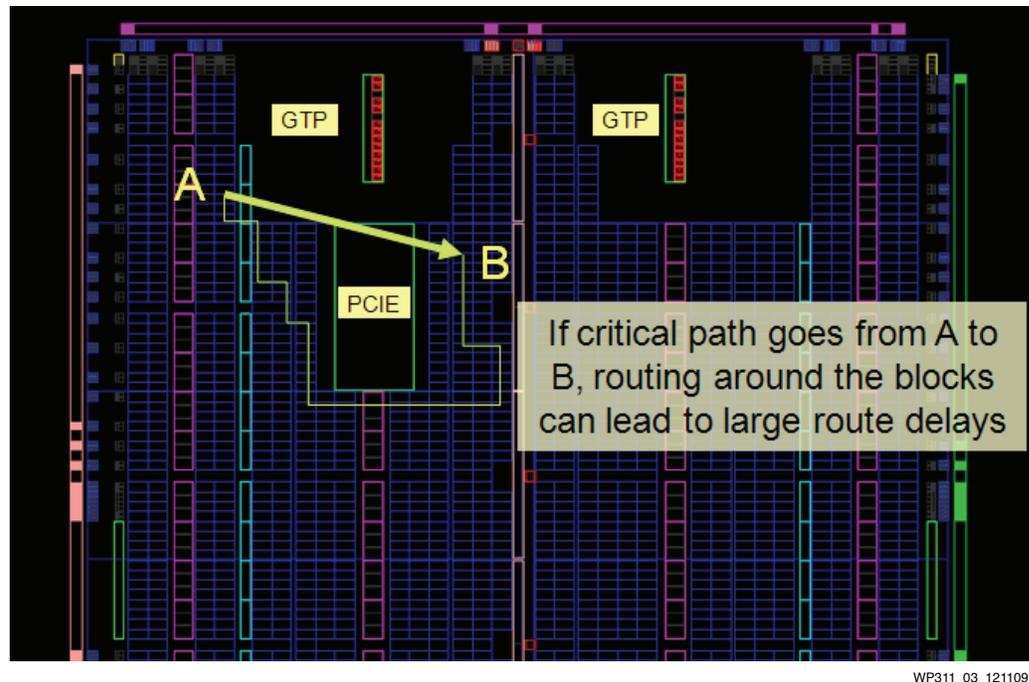

Figure 3: Floorplan View (PlanAhead Software)
- Check the path graphically in the design tools (using the PlanAhead™ software) and ensure that place and route is not forced to route around GTP transceivers or the integrated Endpoint block for PCI Express® technology (see Figure 3).
Critical paths in the design should not require the routing to go around the integrated Endpoint block for PCI Express technology or the GTP transceiver blocks in the center top and bottom halves; critical routes that must travel over these blocks incur a significant delay penalty (see Figure 3).